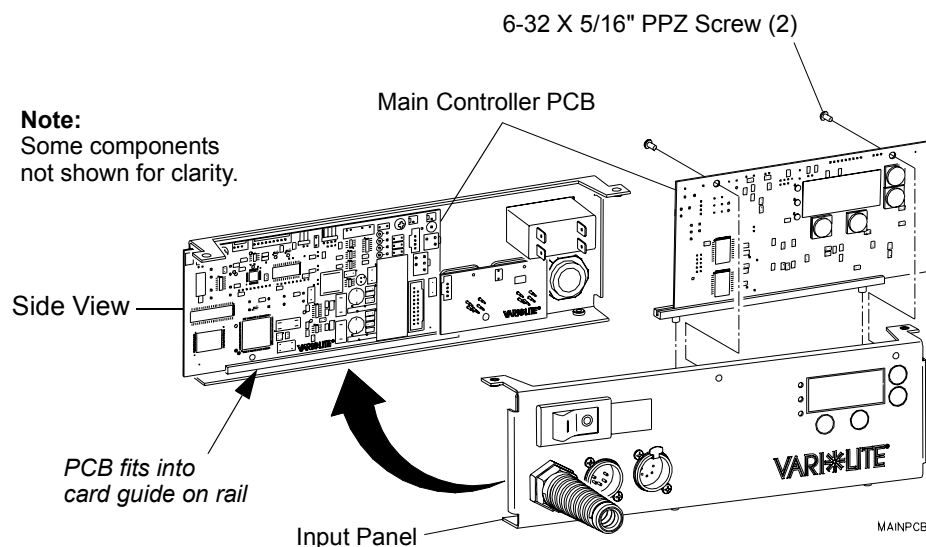

Figure 2-28: Main Controller PCB Assembly Replacement
- Step 4. At top of PCB, remove two 6-32 X 5/16" PPZ screws and remove PCB (Figure 2-28).